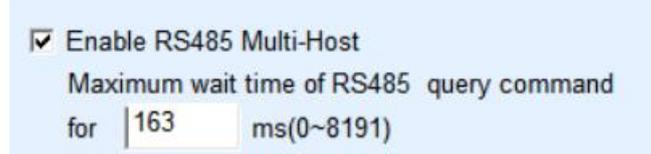
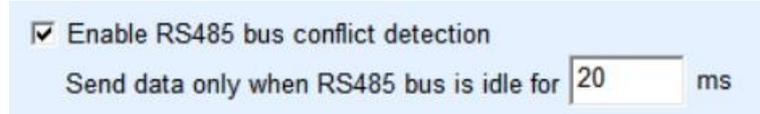

Figure 42 RS485 multi host support
Figure 43 RS485 Conflict prevention idle time
1. Figure 43 shows the RS485 bus collision prevention time. Generally, you can set it to twice the value of Packet Interval in the lower right corner of the parameter configuration page, but the value cannot be less than 20.
2. Figure 42 shows the "RS485 command response timeout time", which is generally determined by the length of the command to and from the reply. If the send
At this time, it should be noted that the two check marks "RS485 bus collision prevention time" as shown in Figure 43 and "RS485 command response timeout time" as shown in Figure 42 need to be removed. Otherwise, the preceding forwarding function cannot be implemented.